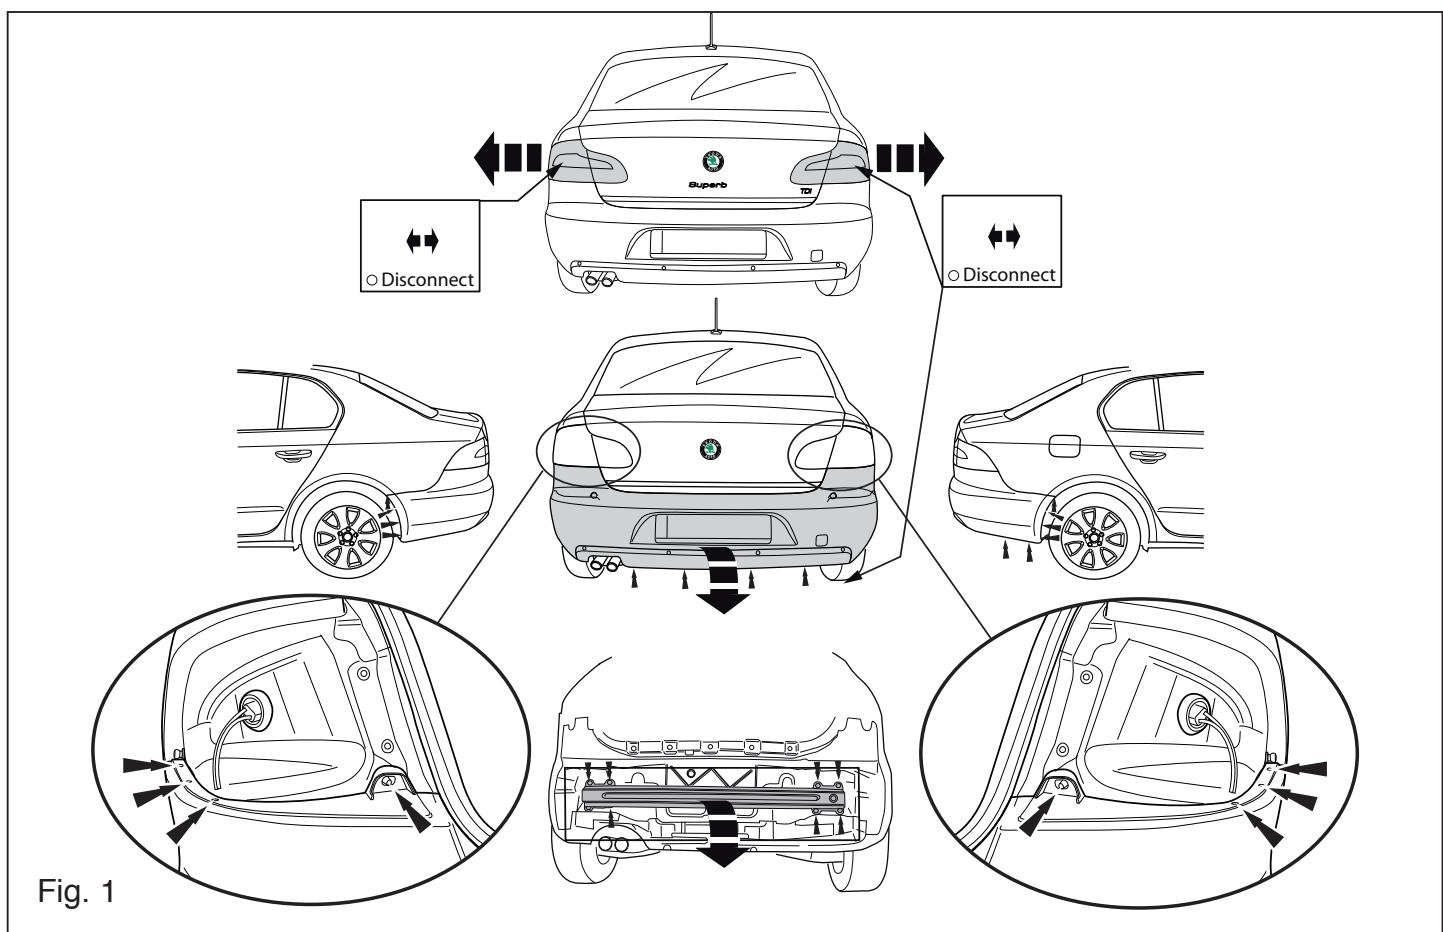

Fig. 1
5. Release the exhaust pipe from its last two holders and loosen the heat shield. See figure 1.
4. Remove the cross member. See figure 1.
3. Remove the bumper. See figure 1.
2. Remove the rear-light units. See figure 1.
1. Remove the rear-light units. See figure 1.
1. Die Rücklichter abmontieren. Siehe Abbildung 1.
2. Die Stoßstange abmontieren. Siehe Abbildung 1.